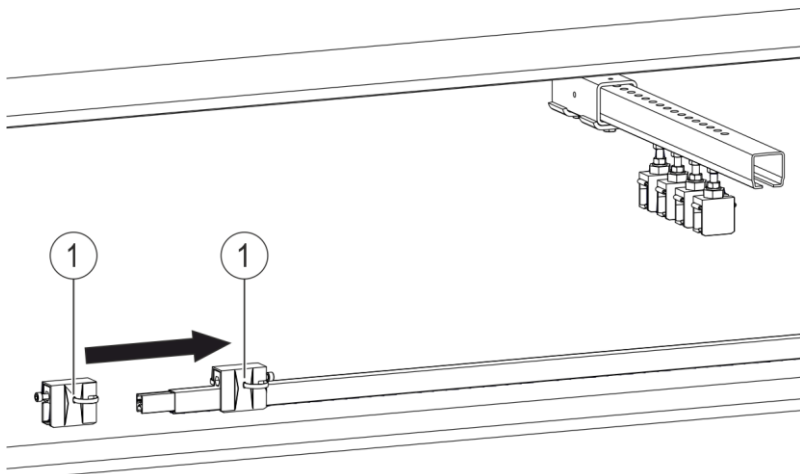

Fig. 91: Slide the anchor point clamps 0812 onto the conductor rail
- Slide the anchor clamps (Pos. 1) onto the conductor rail section to the right and left of the hanger clamp (see Fig. 91). When sliding on the anchor clamps, ensure that the screw on the side of the anchor clamps is on the outside.